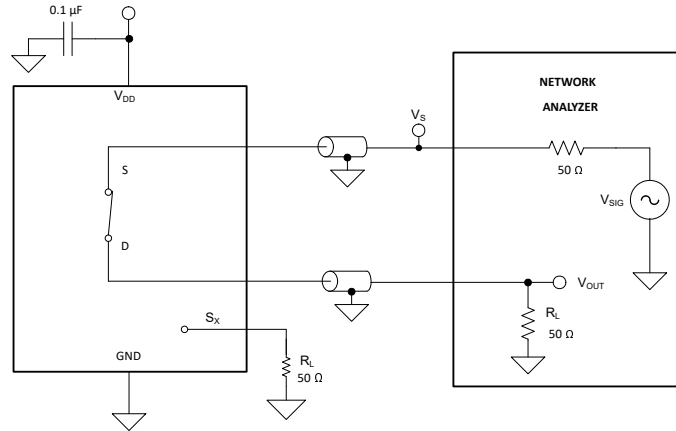

**Figure 6-10. Channel-to-Channel Crosstalk Measurement Setup**
Crosstalk is defined as the ratio of the signal at the drain pin (D) of a different channel, when a signal is applied at the source pin (Sx) of an on-channel. Figure 6-10 shows the setup used to measure, and the equation used to compute crosstalk.